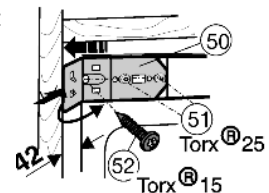

Fig. 23
- ▶ Screw the mounting bracket tight onto the unit wall with Spax screw  $\varnothing 4 \times 19$  Fig. 23 (52).
- ▶ Push the mounting bracket Fig. 23 (50) against the wall of the unit and tighten the two M5 screws, Torx 25 Fig. 23 (51).